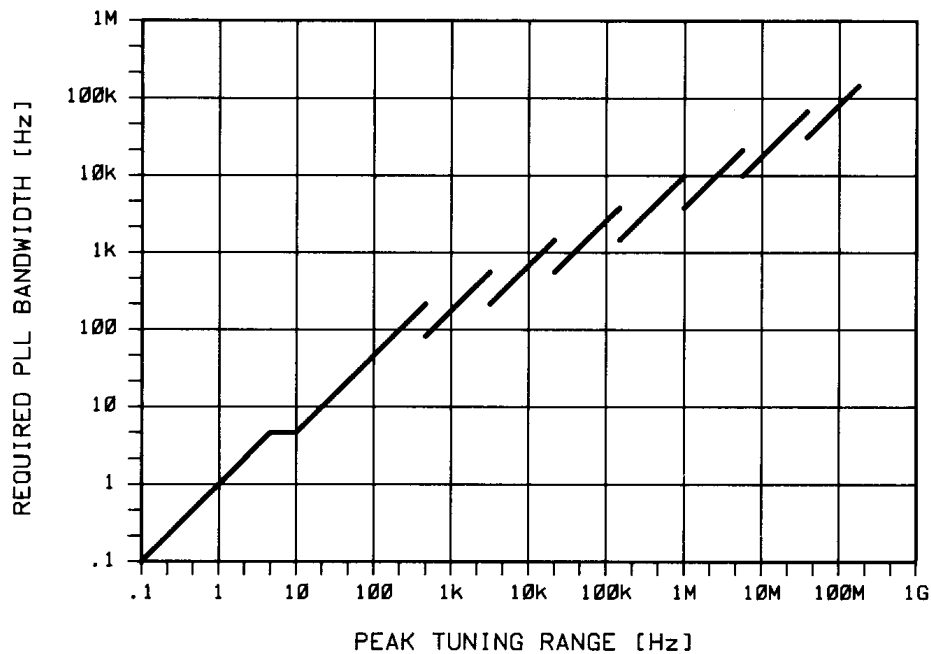

Figure 6-11 Graph of Phase Lock Loop Bandwidth Provided by the Peak Tuning Range
2. Estimate the Phase Lock Loop (PLL) bandwidth for the measurement using the PTR of your VCO and the graph in Figure 6-11 on page 6-21.